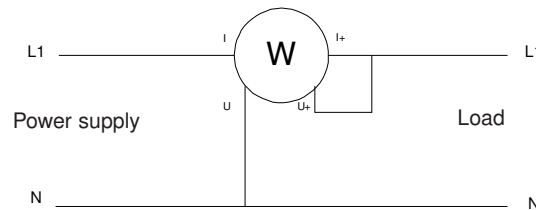
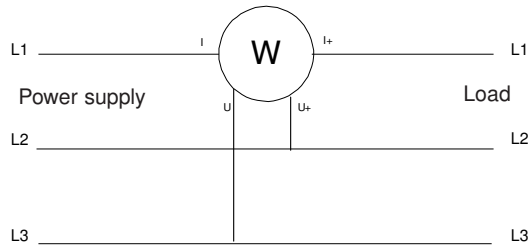

Fig 4.4.1 Single-phase connection diagram
Fig 4.4.2 Three-phase/balanced wires (T3FE) connection diagram (PX 120 only)
Set up as indicated in the connection diagrams in Fig.4.4.1 (single phase) or Fig.4.4.2 (balanced three-phase, T3FE only PX 120), depending on the case, making sure if possible that the maximum acceptable limits are not exceeded (see table below). Range switching is automatic.
3. Set up as indicated in the connection diagrams in Fig.4.4.1 (single phase) or Fig.4.4.2 (balanced three-phase, T3FE only PX 120), depending on the case, making sure if possible that the maximum acceptable limits are not exceeded (see table below). Range switching is automatic.
4. The upper digital display indicates the value of the voltage and the corresponding unit (V).
3. Set up as indicated in the connection diagrams in Fig.4.4.1 or Fig.4.4.2 (T3FE only PX 120), depending on the case, making sure if possible that the maximum acceptable limits are not exceeded (see table below). Range switching is automatic.